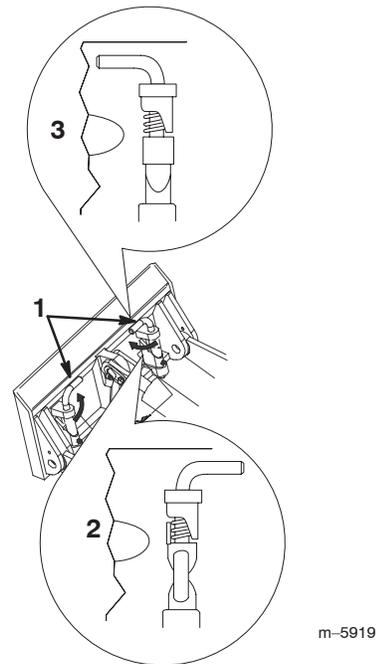

Figure 17
7. Engage the quick attach pins, ensuring that they are fully seated in the mount plate (Fig. 17).